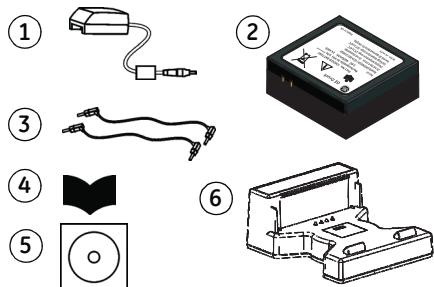

Figure 1-7: Accessories included
- Make sure that there is no damage to the instrument, and that there are no parts missing; see Figure 1-7.
- Remove the plastic film that protects the display. Use the tag (D) in the top right-hand corner.